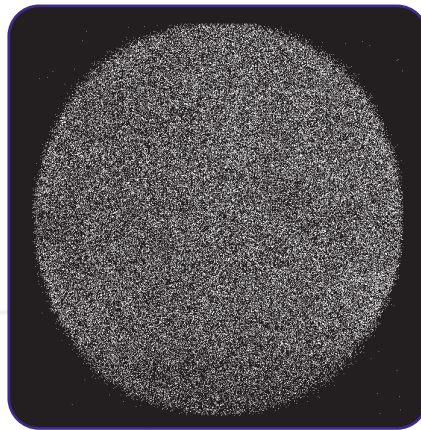

Figure 4: Example for DLD image of accumulated dark counts.
- Accumulate the dark counts for several minutes (e.g. 15 minutes). The DLD image should appear homogeneous and sharply bounded. See **Figure 4** for an example (your specific DLD image can differ in size, shape and segmentation).